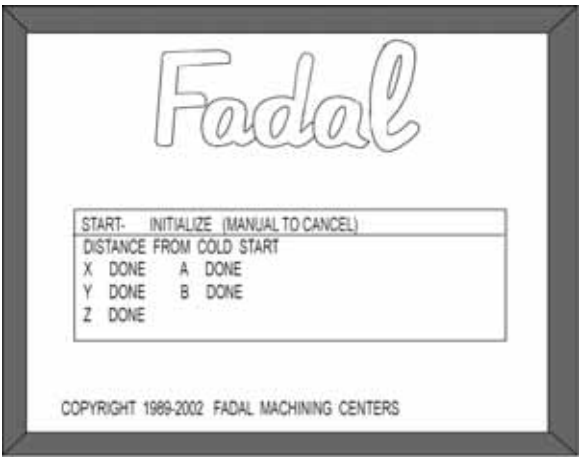

Figure 1-9: Screen display following power-on.
The **Fadal** logo will display on the monitor screen of the pendant when the VMC is powered on (See Figure 1-9).
1. From the power-on screen display (See Figure 1-9), press the START key on the pendant.